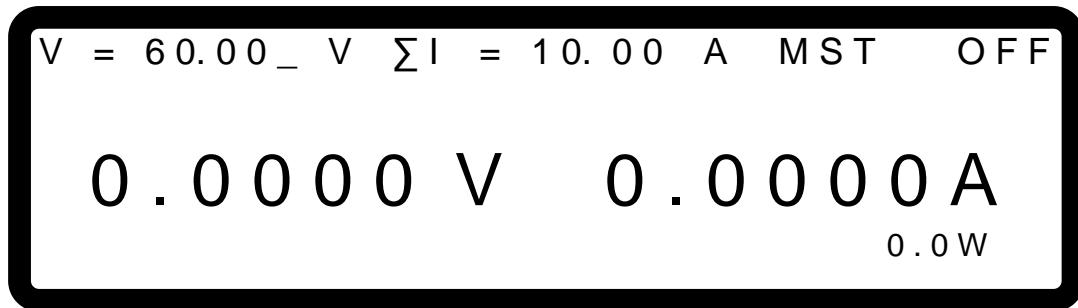

Figure 3-52
MAIN PAGE is used to set voltage (V) and current (I). The difference between single unit and parallel operation is that the current setting will increase according to the number of units connected in parallel. The current setting is indicated by ΣI for easy identification. When set to MASTER, MST will appear in the window's upper right corner as shown in Figure 3-52 below.